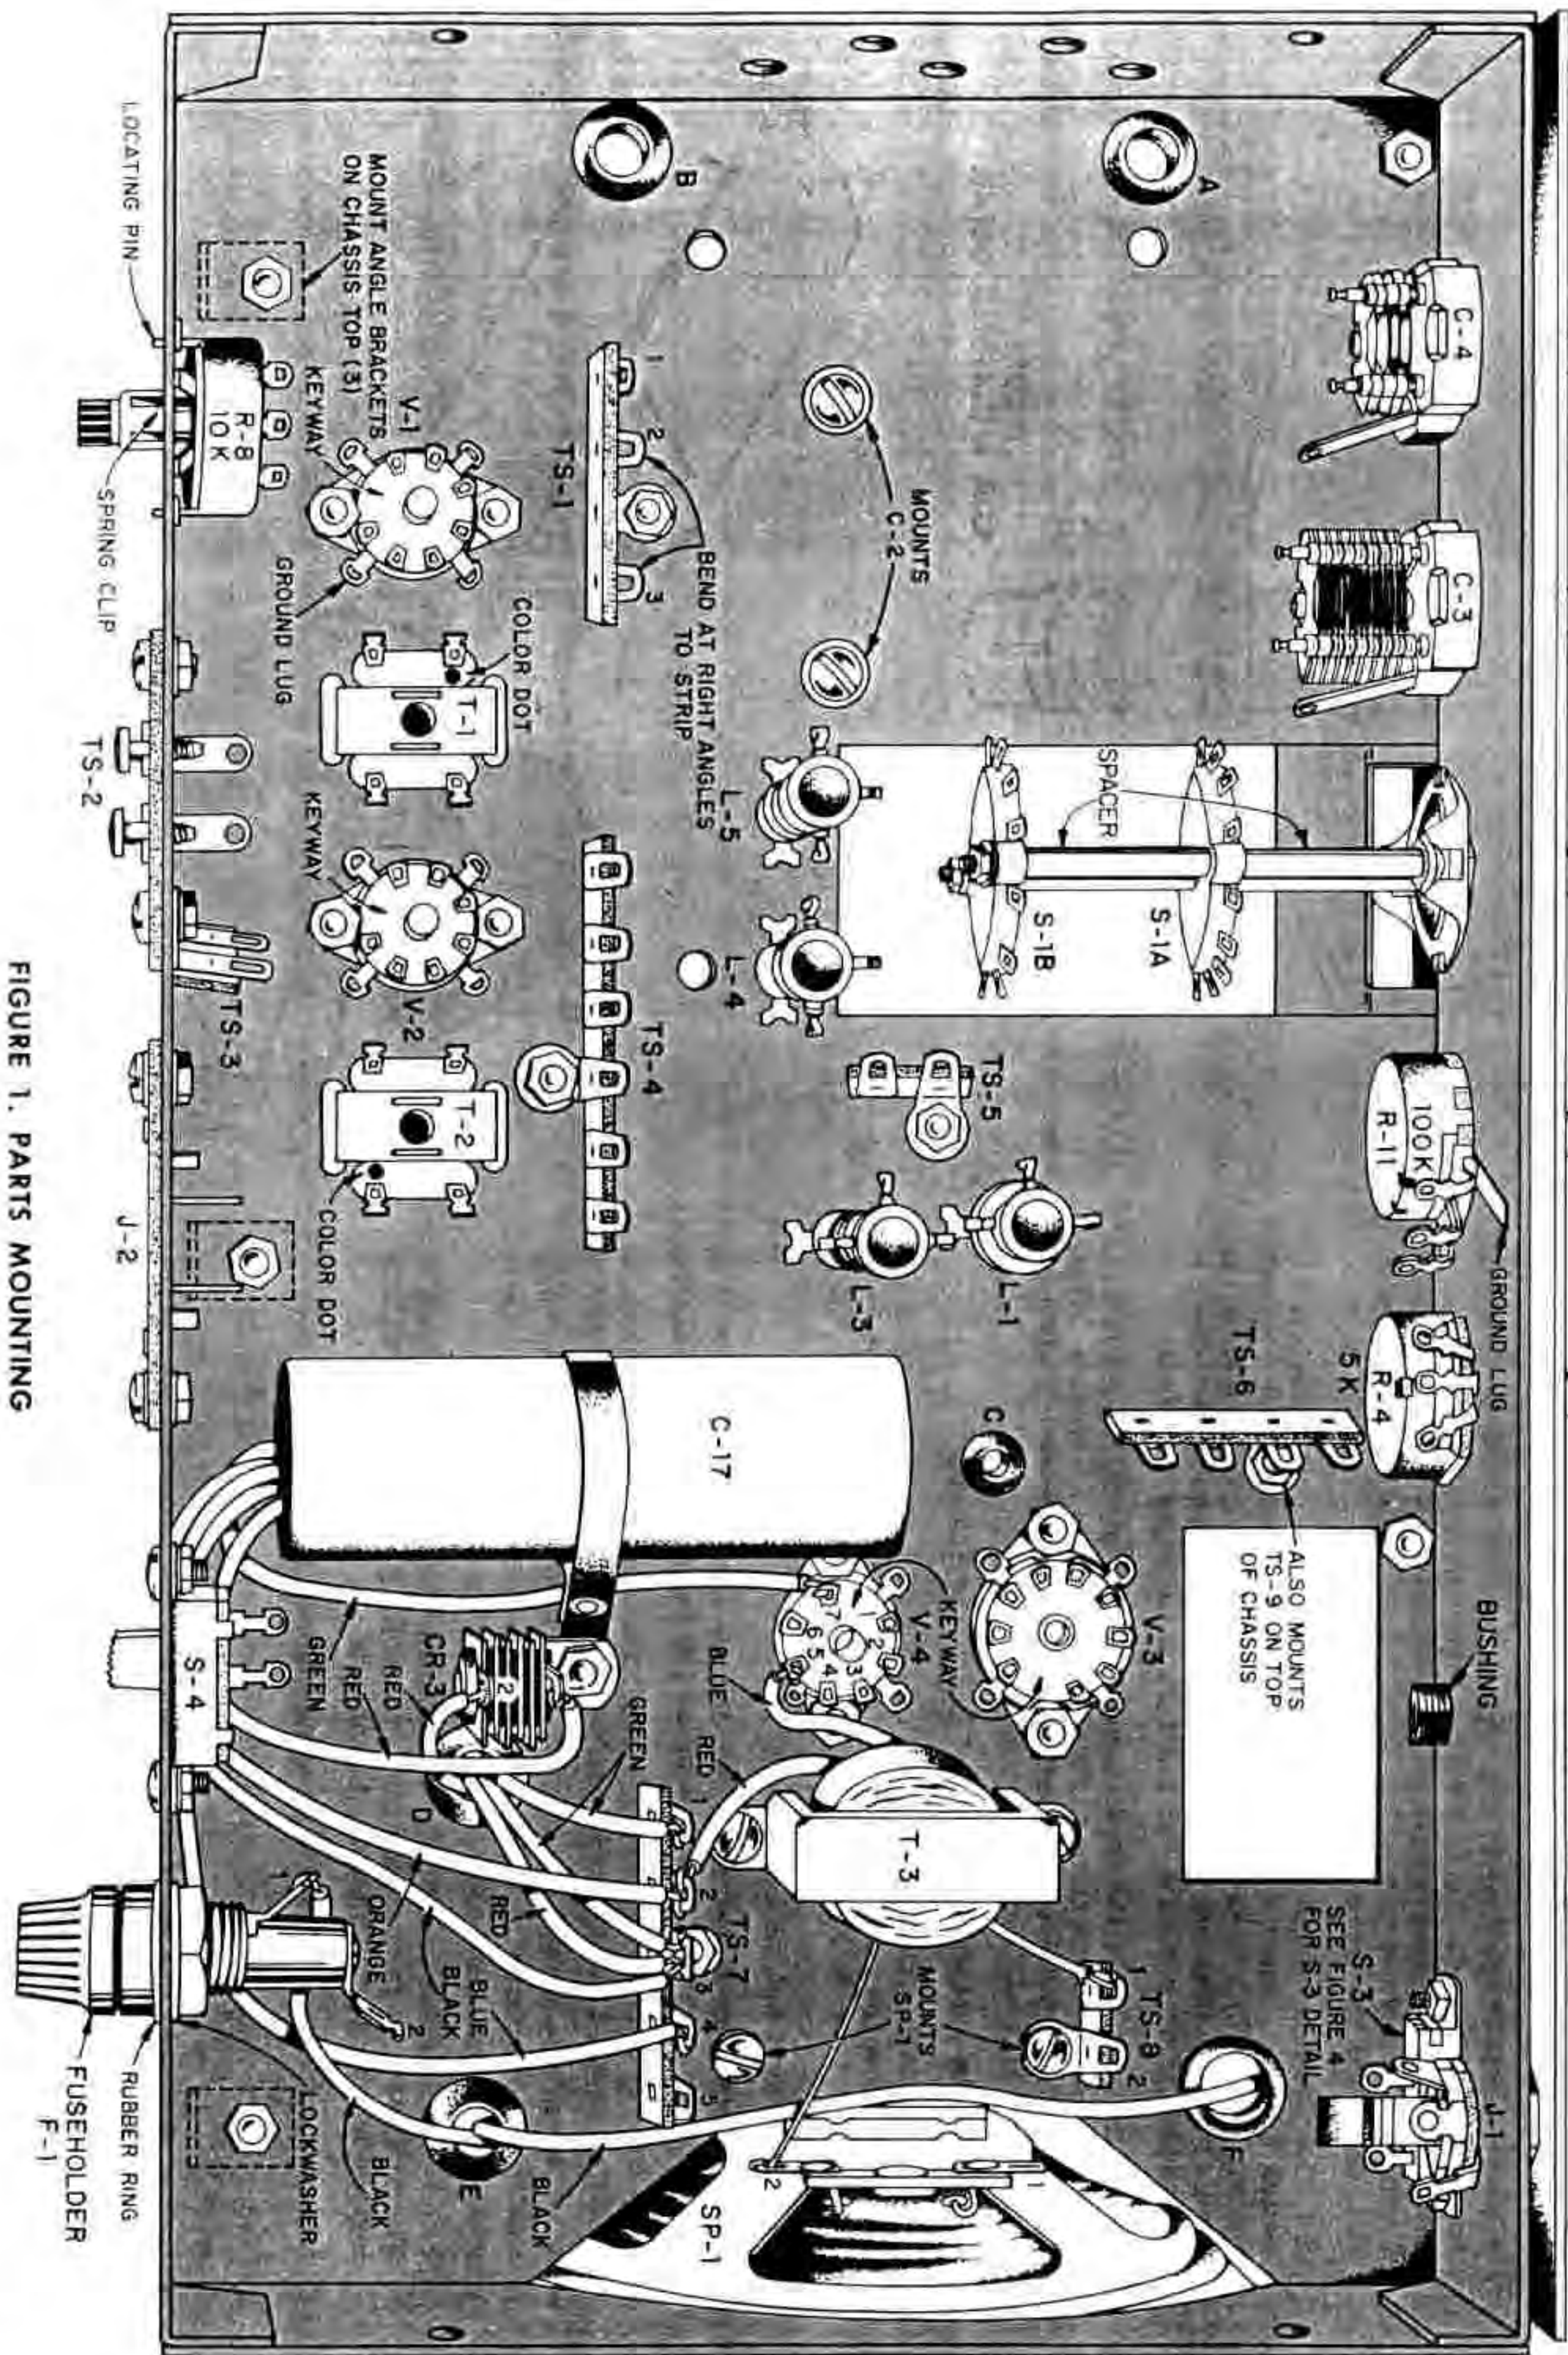

FIGURE 1. PARTS MOUNTING
**REFER BACK TO FIGURE 1.**
- ☑ R-11, 100K control, a  $\frac{3}{8}$ " lockwasher and large ground lug. Bend the tab on the side of the control flat against the face of the control. Slip the ground lug, then the lockwasher, over the shaft of R-11. Now mount R11 and fasten with a  $\frac{3}{8}$ " nut turned to finger tightness. Position R-11 and the ground lug so they are turned slightly towards R-4, as shown in Figure 1.